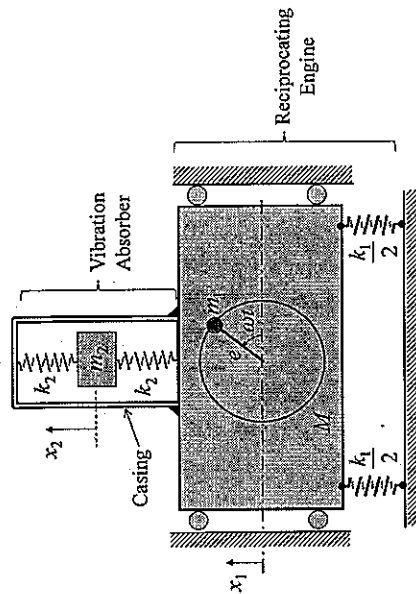

Figure 6
4. Figure 6 shows a vibration absorber mounted on a reciprocating engine. The vibration absorber consists of a mass m_2 and two springs of same stiffness k_2 . The casing of the vibration absorber is rigidly fixed to the engine as shown. The reciprocating engine is modelled as spring-mass system with a mass of M supported on two springs of total stiffness of k_1 as shown. The engine has an unbalanced mass of m_1 . The total mass M includes m_1 . The rotational speed of the engine is ω rad/s. The displacements x_1 and x_2 shown are measured from the respective static equilibrium positions of masses.